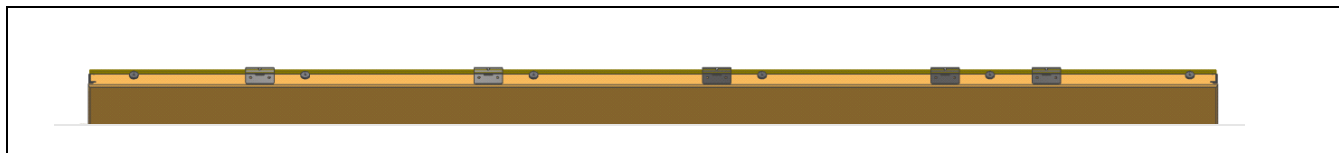

Figure 2
1. Inswing brackets along a stile. See Figure 2.